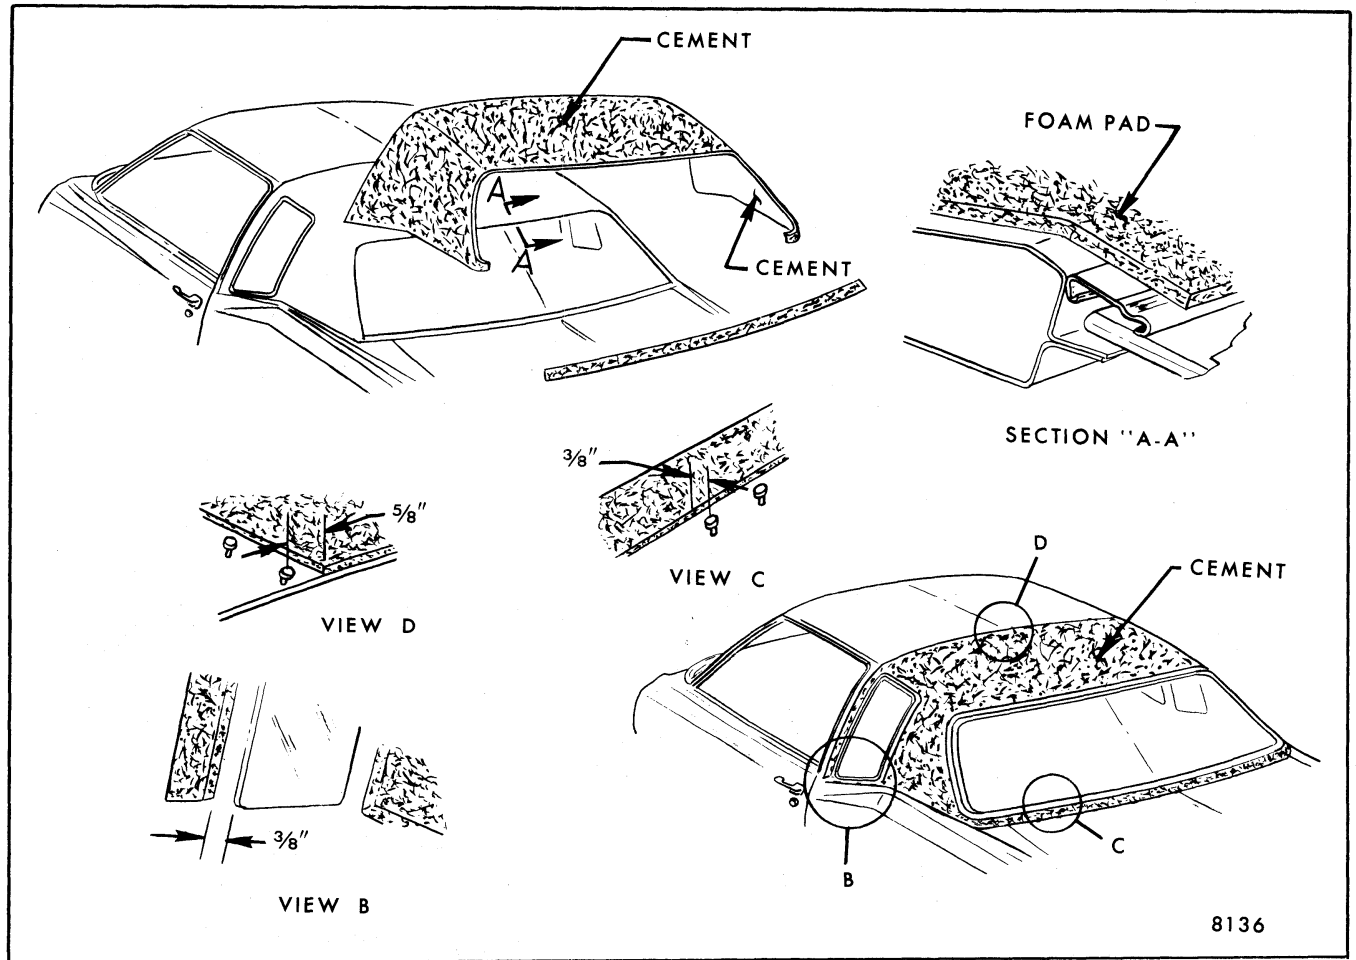

Fig. 8-46-Landau Foam Pad Installation (Two Piece)
10. Trim excessive pad material (Fig. 8-46) as follows: